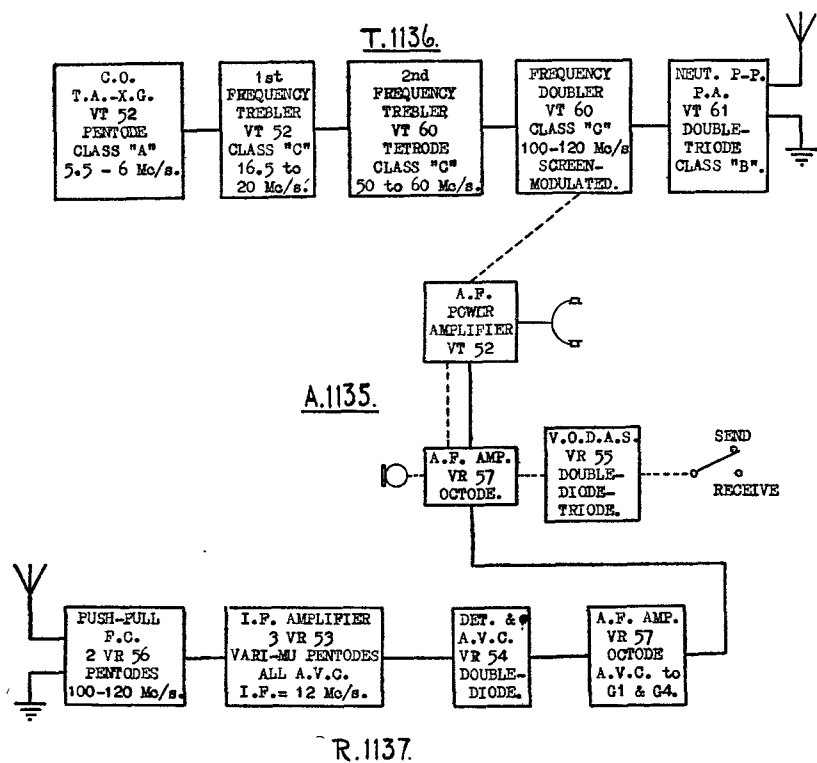

FIG. 80A.—Block diagram, T.R.1133.
2. **T.R.1133.**—The general lay-out of T.R.1133 is shown in the schematic diagram fig. 80A. It is further divided into :—
(i) *The T.1136*, a crystal-controlled transmitter employing the valves shown in fig. 80A. The C.O. has four crystals between 5,555 and 6,666 kc/s, each selected by the controller when required. There are two frequency trebling stages, bringing the frequency up to 50–60 Mc/s.
(ii) *The R.1137* is a superheterodyne receiver employing the valves shown in fig. 80A. It has a push-pull oscillating detector for frequency changer, employing pentode V.R.56's with screens used as oscillator anodes, and carrying a 12 Mc/s I.F. transformer in their anode circuits proper. Aerial and oscillator circuits are tuned, frequency being selected by the controller. The oscillator frequency is stabilised by a special type of condenser.